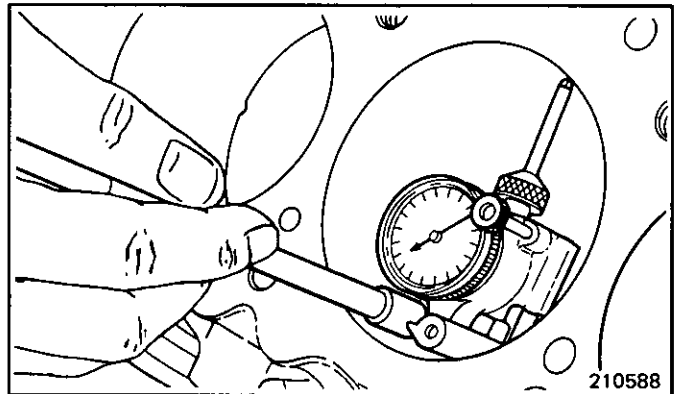

Figure 52 Measuring Cylinder Bore For Taper And Out of Round
- Cylinder bore, with bore gage J-8087 measure for wear, taper, run-out and ridging (Figure 52)